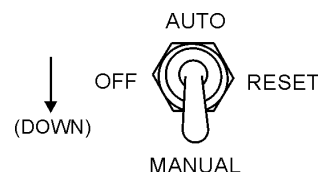

Figure 53. Auto-Off/Reset-Manual Switch
11. Turn the Auto-Off/Reset-Manual switch to 'Manual' to start the engine (Figure 53). Once the engine starts, let the engine run for 1-2 minutes. Listen for any abnormal noises.